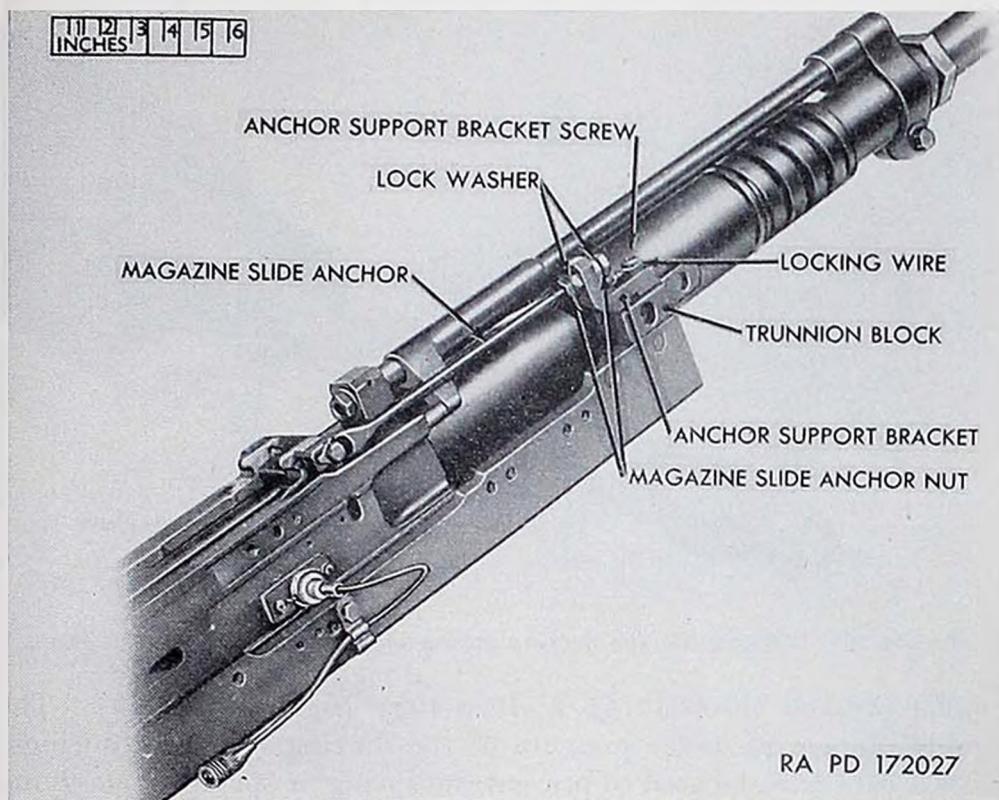

Figure 77. Anchor support bracket assembled to cradle.
b. The anchor support bracket (fig. 77) is bolted to the top of the trunnion block to provide support for the magazine slide anchor, which prevents the magazine slide from moving during recoil. This feature is used in the operation of the feed mechanisms during firing, as the feed mechanisms are recoil-operated.